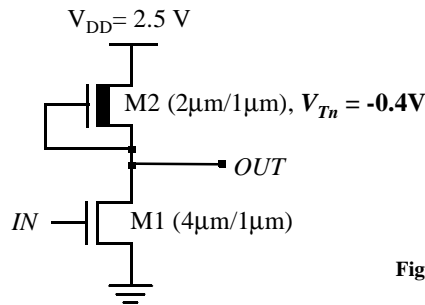

Figure 5.5 A depletion load NMOS inverter
7. Consider the circuit in Figure 5.5. Device M1 is a standard NMOS device. Device M2 has all the same properties as M1, except that its device threshold voltage is *negative* and has a value of  $-0.4\text{V}$ . Assume that all the current equations and inequality equations (to determine the mode of operation) for the depletion device M2 are the same as a regular NMOS. Assume that the input  $IN$  has a  $0\text{V}$  to  $2.5\text{V}$  swing.